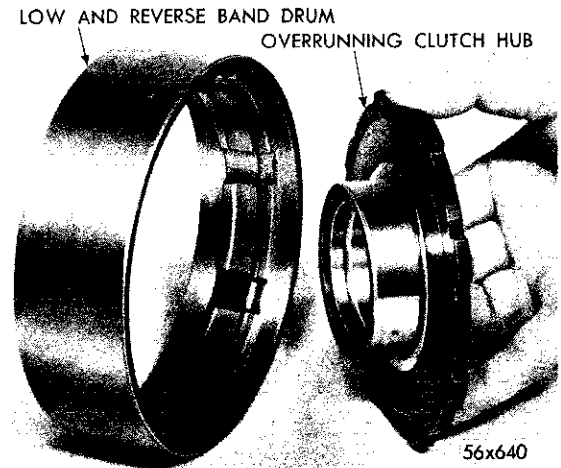

Fig. 109—Removal and Installation of Overrunning Clutch Hub in Low and Reverse Band Drum
(G). Remove the low and reverse planet pinion carrier assembly (E) from reverse band drum. Remove overrunning clutch hub assembly from reverse band drum, as shown in Figure 109.
Install overrunning clutch hub assembly (hub first) into snap ring side of the low and reverse band drum, (Fig. 109). Place low and reverse planet pinion carrier assembly (E) in position in low and reverse band drum (G). With drum supported, select snap ring to give minimum clearance and install. Snap rings are available in the following three thicknesses: